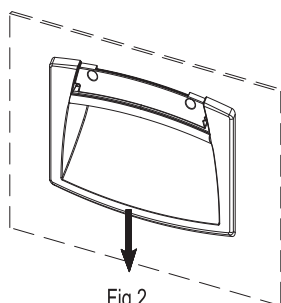

Fig.2
4. Gently push the handle downward (Fig. 2).